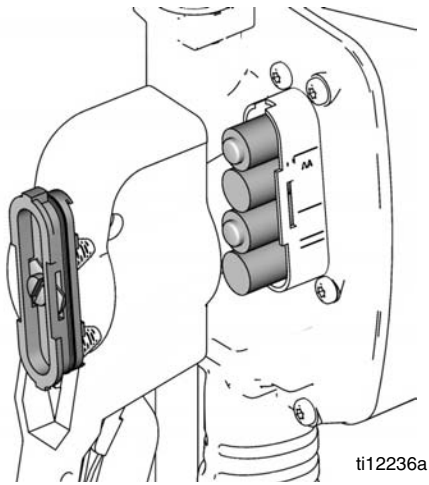

FIG. 22
2. Install **four NEW** batteries. Refer to FIG. 22 for proper battery orientation in meter. Be sure they are installed correctly or the meter will not function.